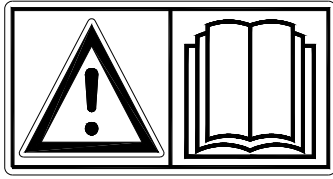

Figure 1
**Read and understand** (Figure 1) the manual *before* you start using the Extreme Clean.